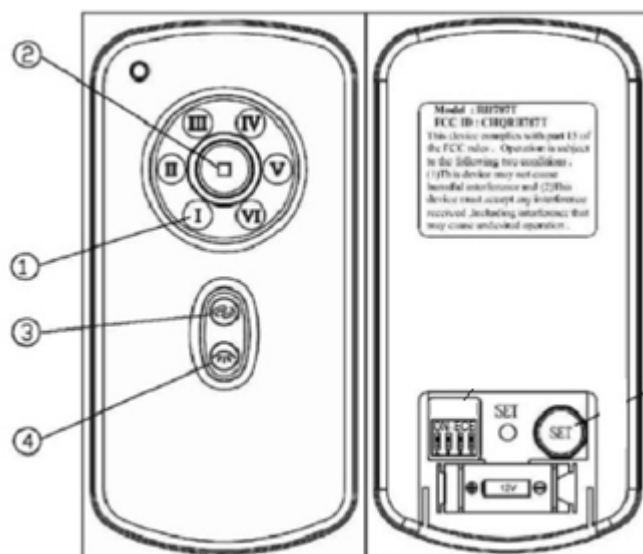

Fig. 12
- Change the position of the DIP switches in the remote transmitter 2, so that it will be different to transmitter 1. Fig.12